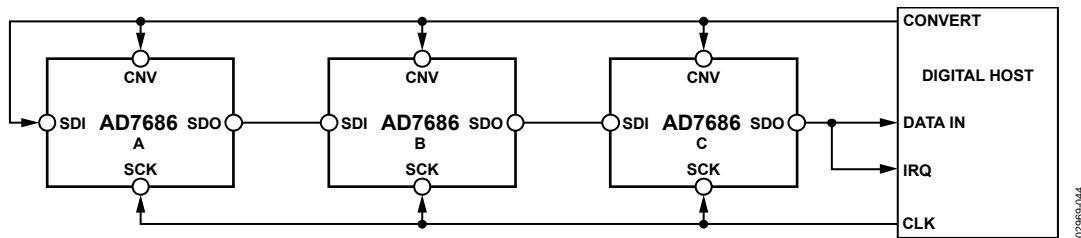
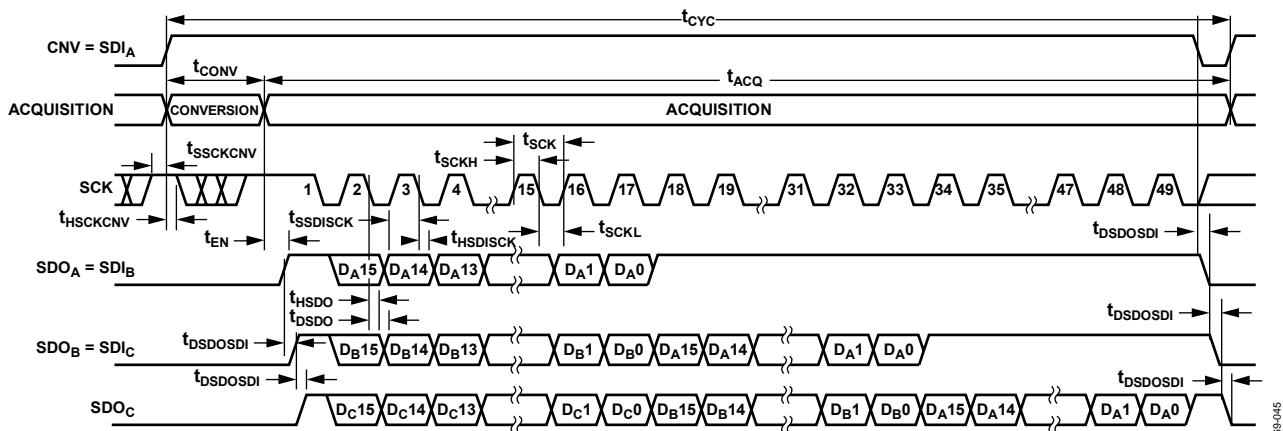

Figure 43. Chain Mode with Busy Indicator Connection Diagram
Figure 44. Chain Mode with Busy Indicator Serial Interface Timing
- In chain mode, if SCK is high during the CNV rising edge (see Figure 44).
This mode can be used to daisy-chain multiple AD7686s on a 3-wire serial interface while providing a busy indicator. This feature is useful for reducing component count and wiring connections, for example, in isolated multiconverter applications or for systems with a limited interfacing capacity. Data readback is analogous to clocking a shift register. A connection diagram example using three AD7686s is shown in Figure 43, and the corresponding timing is given in Figure 44.
When SDI and CNV are low, SDO is driven low. With SCK high, a rising edge on CNV initiates a conversion, selects the chain mode, and enables the busy indicator feature. In this mode, CNV is held high during the conversion phase and the subsequent data readback. When all ADCs in the chain have completed their conversions, the nearend ADC (ADC C in Figure 43) SDO is driven high.